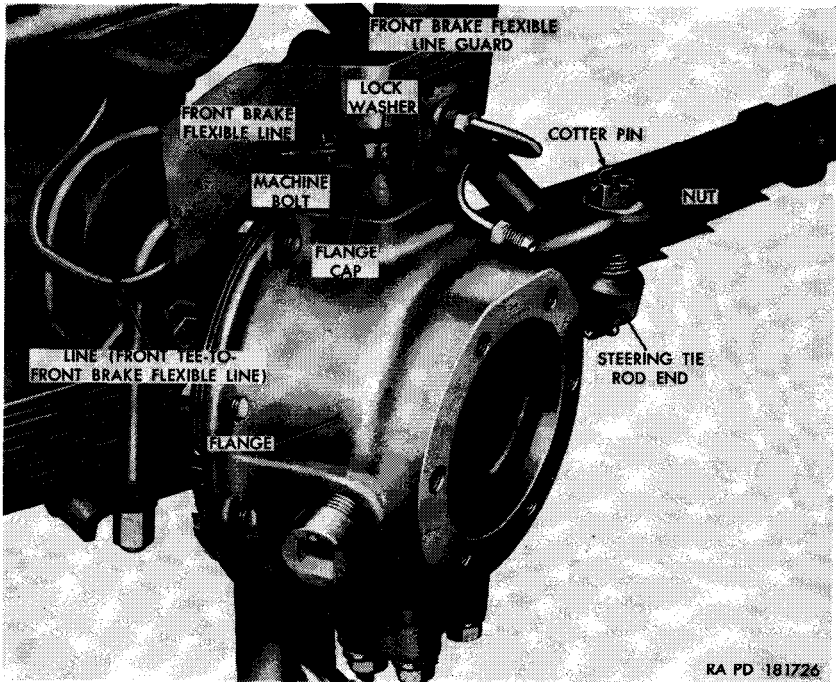

Figure 104. Steering knuckle flange with arm assembly.
- (1) Remove the front axle shaft assembly (par. 224a).
- (2) Withdraw the cotter pin and unscrew the nut securing the steering tie rod end (fig. 104) to the steering knuckle arm.
- (3) Unscrew the nut securing the line between the front tee and the front brake flexible line (fig. 104) to the flexible line.
- (4) Remove the two bolts and lockwashers securing the front brake flexible line guard to the flange cap and remove guard and front brake flexible line (fig. 104).
- (3) Position a steering knuckle flange cap bearing cone in its cup in the upper section of the housing. Position the steering knuckle flange arm (fig. 104) on the stud of the tie rod end and swing the flange into position on the housing. Tilt the flange up and slide the second steering knuckle flange cap bearing cone in from the rear of the flange and between the flange and housing. Seat the bearing cones in their cups by working the flange up and down.
- (6) Position the front brake flexible line guard (fig. 104) on the steering knuckle flange cap and secure in position with two  $\frac{3}{8}$ -inch lockwashers and  $\frac{3}{8} \times 1\frac{1}{2}$  bolts.
- (7) Screw the nut on the line between the front tee and the front brake flexible line into the fitting of the front brake flexible line (fig. 104).
- (8) Screw the  $\frac{1}{2}$ -inch nut (fig. 104) onto the stud of the steering tie rod end and insert a  $\frac{3}{32} \times \frac{7}{8}$  cotter pin through slots in nut and hole in the stud.
- (9) Install the steering knuckle flange oil seal (par. 229b).
- (10) Install front axle shaft assembly (par. 224b).
- (1) Place a jack under the front axle and raise vehicle until tires clear the ground. Place safety stands or suitable blocking under vehicle frame side rails. Leave the jack in position to support weight of axle during removal procedures.
- (2) Remove front wheels (par. 228).
- (3) Withdraw the cotter pin and unscrew steering tie rod end nut (fig. 104). Tap the stud of the tie rod end out of the steering knuckle arm (fig. 104). Repeat the procedure at the other side of the vehicle.
- (4) Disconnect the two front shock absorbers at the lower end only (par. 253).
- (6) Connect the lower end of the front shock absorbers to the spring and shock absorber mounting seats following the applicable instructions contained in paragraph 253.
- (7) Tap the stud of the tie rod end up into the steering knuckle arm (fig. 104) and secure in position with a  $\frac{1}{2}$ -inch nut and  $\frac{3}{32}$  x  $\frac{7}{8}$  cotter pin. Repeat the procedure on other side of vehicle.
- (8) Install front wheels (par. 228).
- (9) Remove safety stands and blocking, lower vehicle to the ground and remove jack.
- (10) Lubricate axle as directed on lubrication order (par. 66).
- (11) Bleed the brake system (par. 246).
- (12) Make a record of replacement on DA Form 478.